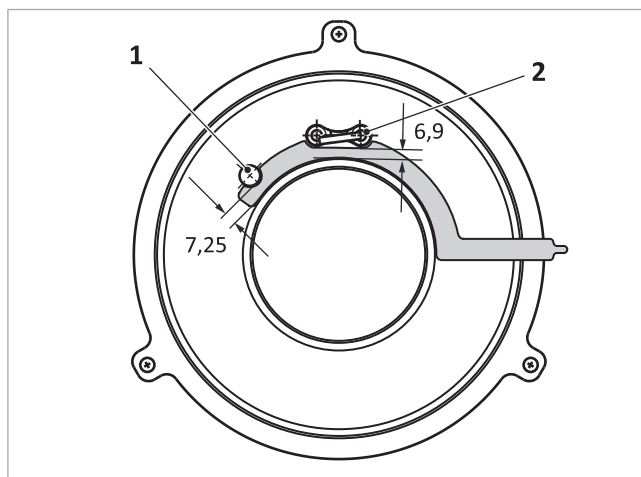

Fig. 49: Clearance from ionisation electrode and ignition electrode to burner tile
- Ionisation electrode → Fig. 49 (1): 7.25 mm
- Ignition electrode → Fig. 49 (2): 6.9 mm